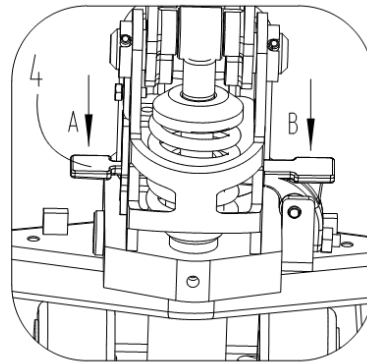

Figure 4
3.4 As shown in Figure 4, step on point A to lift the lever plate 4, which makes the truck ready to lift, then move the handle to lift the fork.
3.5 As shown in Figure 4, slightly step on the point B to make the lever plate 4 at the neutral position. Now move the handle, the truck neither would lift nor lower. The truck is able to handle pallets in neutral.
3.6 As shown in Figure 4, step hard on point B to lower the lever plate 4, which makes the truck ready to lower, then move the handle to lower the fork.